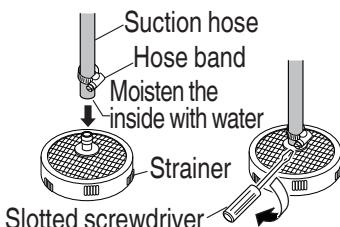

Fig. 15
1. Attaching the strainer to the suction hose (Fig. 15)